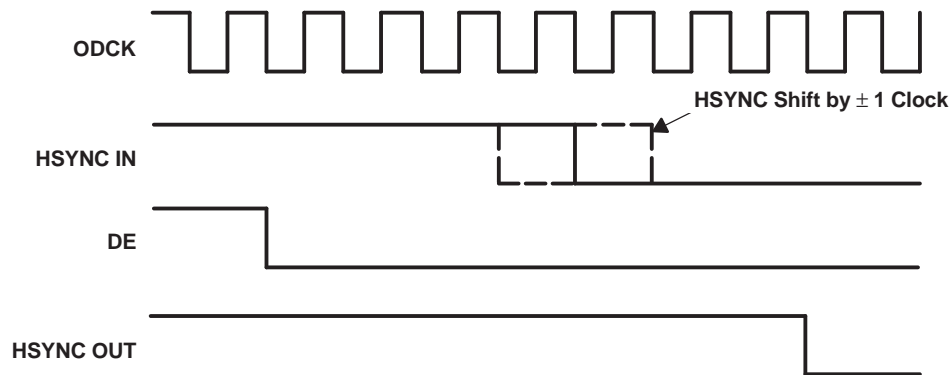

Figure 16. HSYNC Regeneration Timing Diagram
The TFP401A integrates HSYNC regeneration circuitry that provides a seamless interface to these noncompliant transmitters. The position of the data enable (DE) signal is always fixed in relation to data, irrespective of the location of HSYNC. The TFP401A receiver uses the DE and clock signals to recreate stable vertical and horizontal sync signals. The circuit filters the HSYNC output of the receiver, and HSYNC is shifted to the nearest eighth bit boundary, producing a stable output with respect to data, as shown in Figure 16. This ensures accurate data synchronization at the input of the display timing controller.